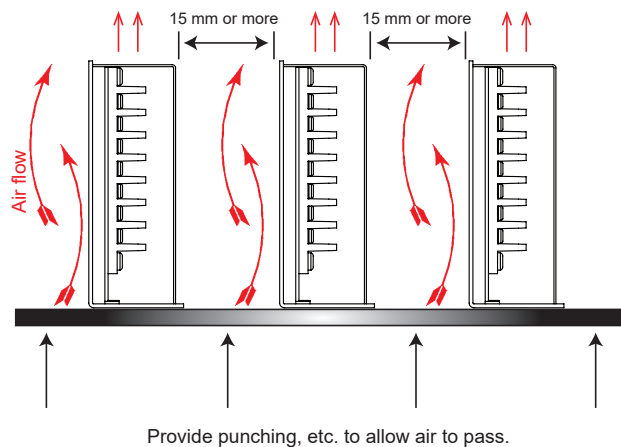

Figure 5. Airflow Requirements
- This is a convection cooling type power supply. To ensure proper heat radiation and safety, allow a distance of more than 15 mm between the power supply and peripheral parts. See **Figure 5**.